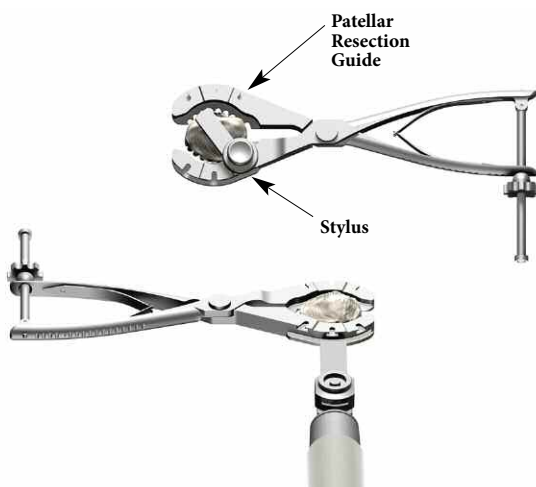

Figure 80
- Remove all osteophytes and synovial insertions around the patella, and measure thickness using a caliper. After determining the depth of the cut with a caliper, fix the stylus in the appropriate slot to the patellar resection guide, and capture the patella between the jaws of the saw guide. Using a 0.05" (1.27mm) non-offset sawblade, resect the patella (**Figure 80**).